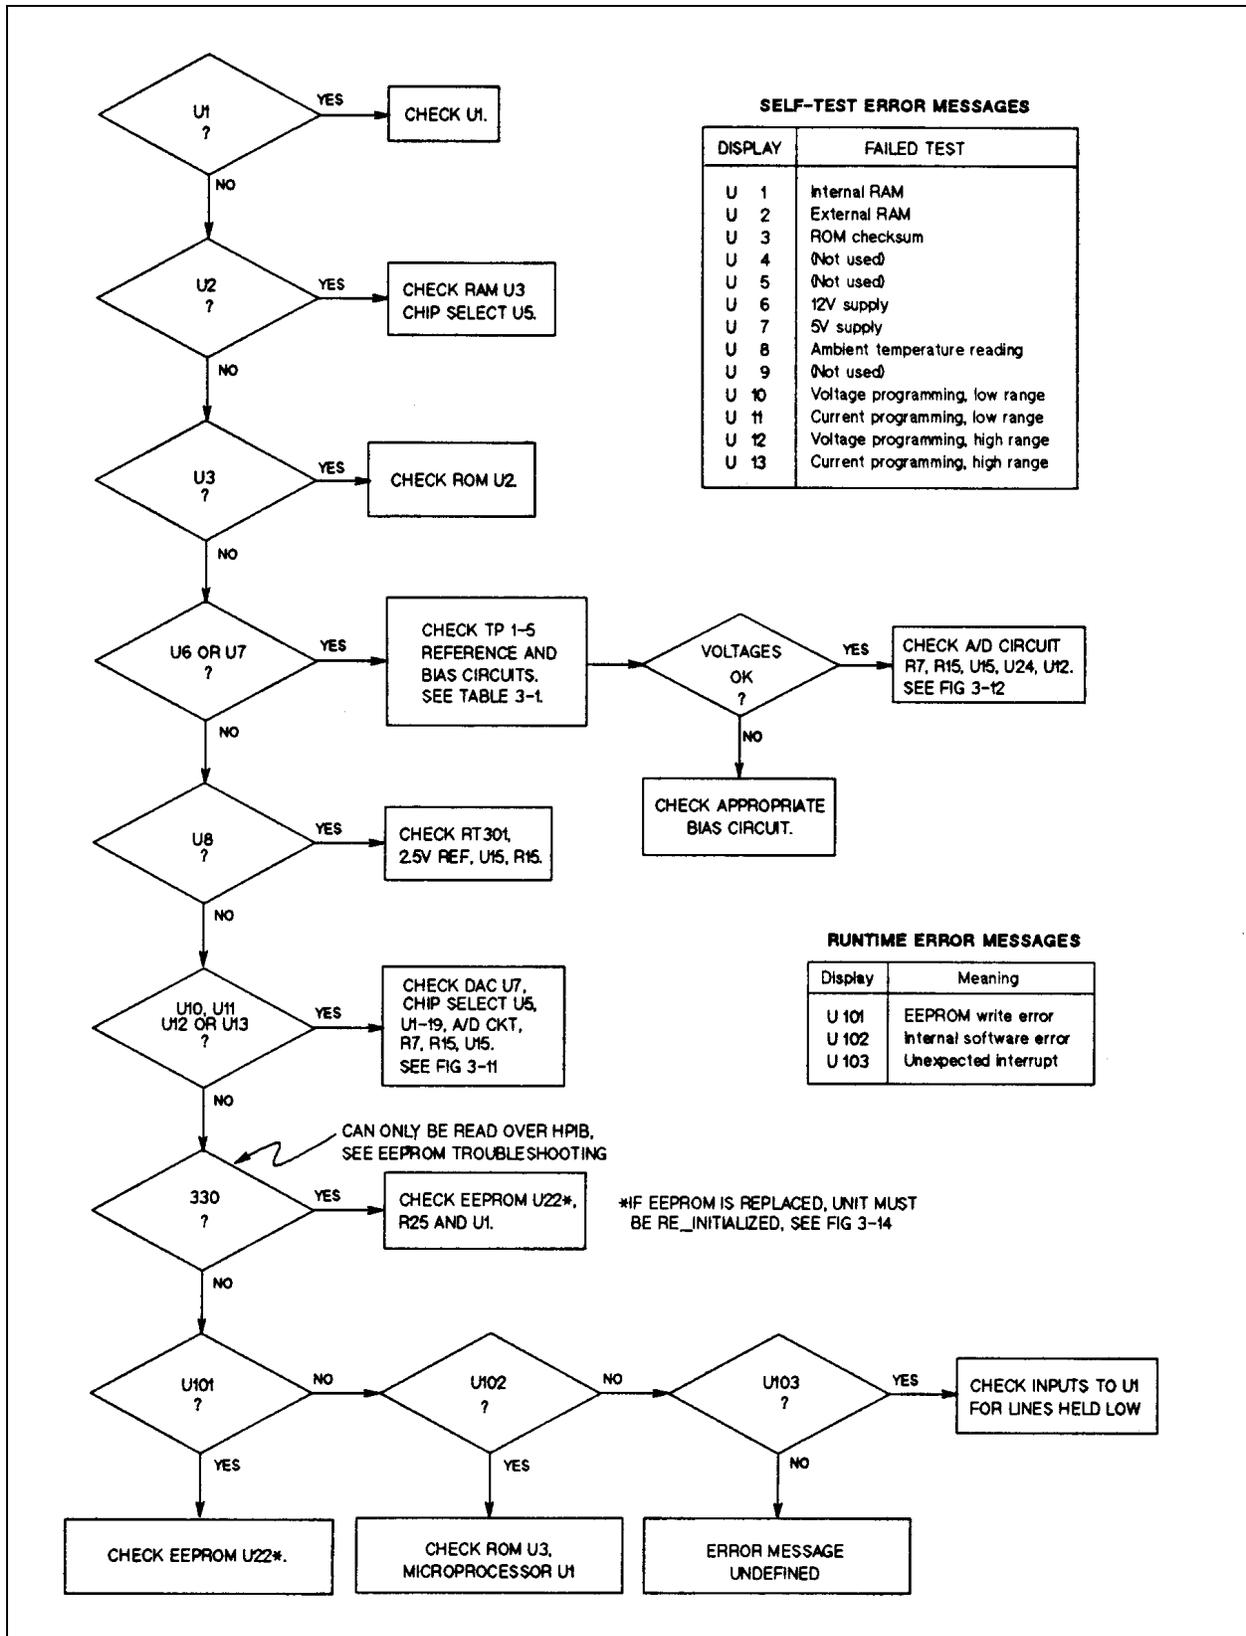

Figure 3-3. Troubleshooting Error Messages
- ⌘ Figure 3-3 - Troubleshooting Error Messages
If you experienced a selftest failure or runtime error message as described in Chapter 3 of the *Power Module User's Guide*, disassemble the module and proceed directly to the flowchart in Figure 3-3 "Troubleshooting Error Messages".